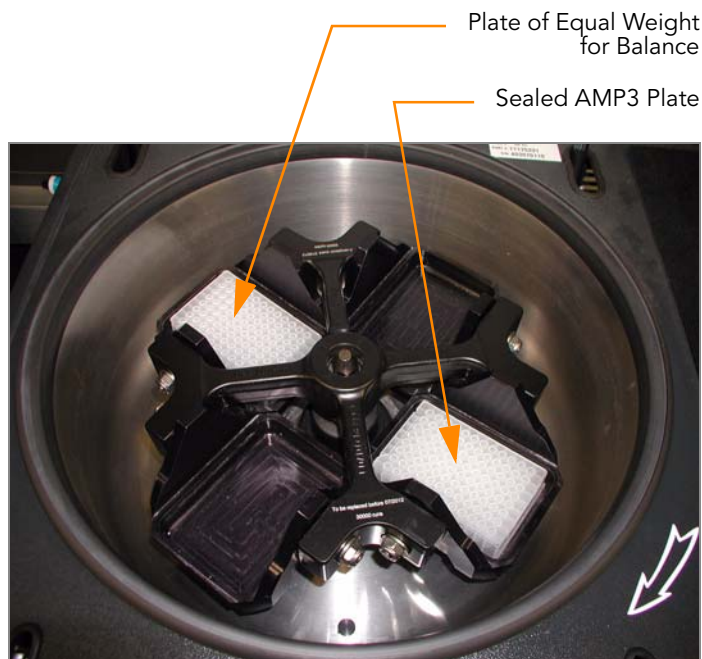

Figure 118 Balancing AMP3 Plate in Centrifuge
13. Place the sealed AMP3 plate in the centrifuge opposite another plate of equal weight (Figure 118).